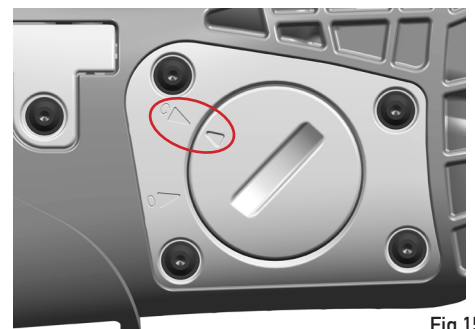

Fig.15
- Replace the cover and turn it to the Closed arrow (Fig. 15).